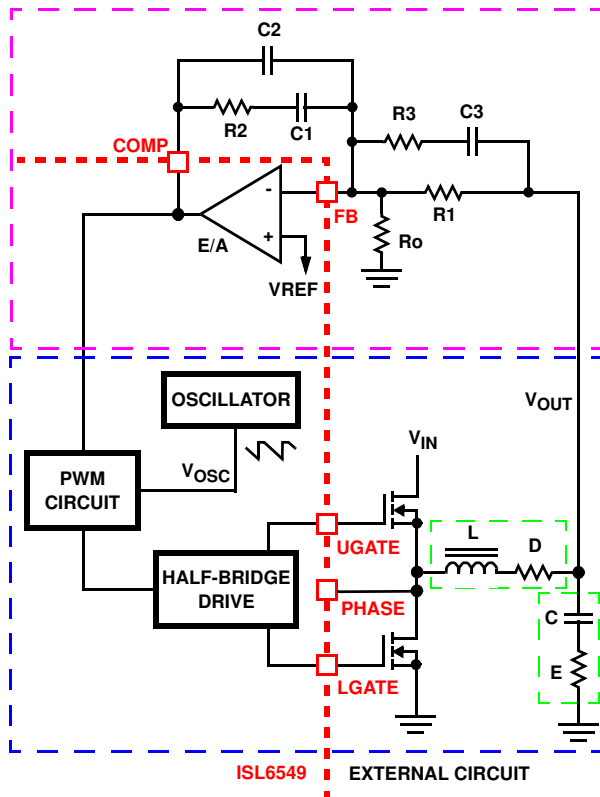

FIGURE 10. VOLTAGE-MODE BUCK CONVERTER COMPENSATION DESIGN
Figure 10 highlights the voltage-mode control loop for a synchronous-rectified buck converter, applicable to the ISL6549 circuit. The output voltage (VOUT) is regulated to the reference voltage, VREF. The error amplifier output (COMP pin voltage) is compared with the oscillator (OSC) modified saw-tooth wave to provide a pulse-width modulated wave with an amplitude of VIN at the PHASE node. The PWM wave is smoothed by the output filter (L and C). The output filter capacitor bank’s equivalent series resistance is represented by the series resistor E.
The compensation network consists of the error amplifier (internal to the ISL6549) and the external R1-R3, C1-C3 components. The goal of the compensation network is to provide a closed loop transfer function with high 0dB crossing frequency (F0; typically 0.1 to 0.3 of FSW) and adequate phase margin (better than 45 degrees). Phase margin is the difference between the closed loop phase at F0dB and 180°. The equations that follow relate the compensation network’s poles, zeros and gain to the components (R1, R2, R3, C1, C2, and C3) in Figure 10.
1. Select a value for R1 (1kΩ to 5kΩ, typically). Calculate value for R2 for desired converter bandwidth (F₀). If setting the output voltage via an offset resistor connected to the FB pin, R_o in Figure 10, the design procedure can be followed as presented.